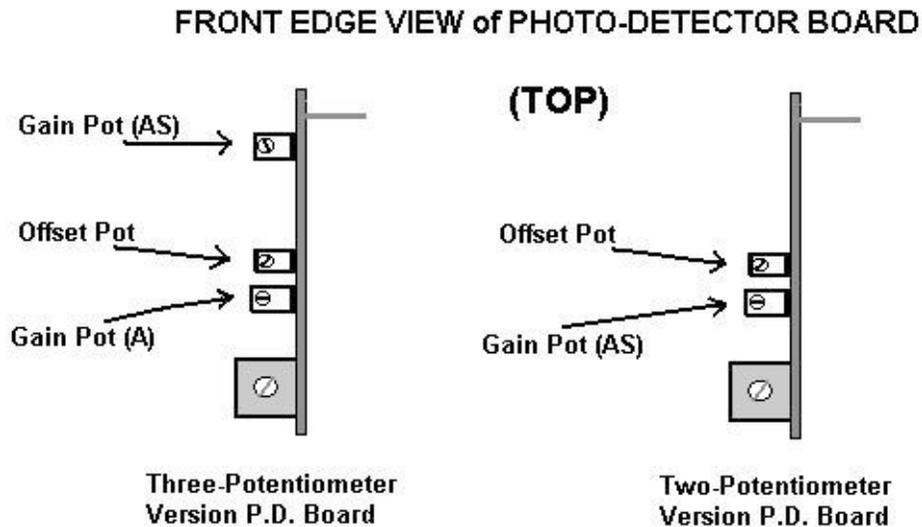

Figure 1a. Gain Pot Location for Two Versions of the P.D. Board
- 7.2 With the PD End Cap removed, one of the two versions of the P.D. Board will be visible to you. Identify the version you have in Figure 1a, above. If your P.D. Board is the “two-potentiometer” version with the single gain pot, then continue to the next step. Otherwise, skip down to Step 7.4.
- 7.3 Using a small-bladed screwdriver adjust the single gain pot (Figure 1a, right-hand side) until an output of about 90 is observed on the LED gain meter. Check to make sure that the Analyzer Drum has not shifted from the **105°** setting. Once you have successfully completed this step, skip down to Step 7.7.
- 7.4 If you have the “three-potentiometer” version P.D. board (Figure 1a) you must adjust the gain as follows. Put the Mode Switch in the “**A**” position. If the analyzer drum starts rotating and it does not immediately stop, then gently grasp the edge of the drum to stop the rotation. With your hand, turn the Analyzer Drum so that it is set at **45°**, just as the polarizer drum is. Using a small-bladed screwdriver adjust the lowermost gain pot (Figure 1a, left-hand side) until an output of about 90 is observed on the LED gain meter.
- 7.5 Now set the Analyzer Drum to **105°**. The output observed on the LED gain meter should now be about 20 – 25. Put the Mode Switch in the “**AS**” position and the LED gain meter output should jump back up toward 90. If not, adjust the uppermost gain pot (Figure 1a, left-hand side) until an output of 90 is achieved.